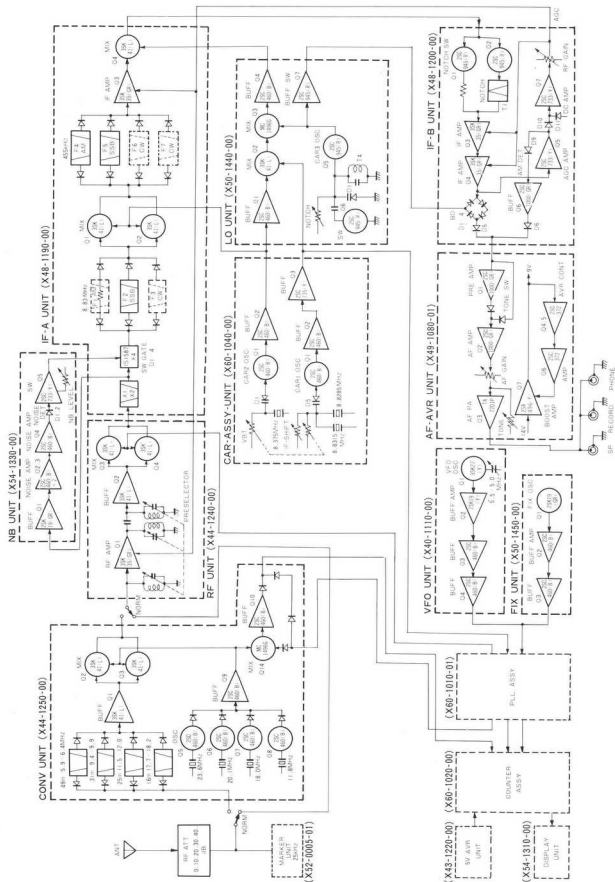

Fig. 5.1 Block Diagram
5.1 BLOCK DIAGRAM GENERAL DESCRIPTION (FIG. 5-1)
Refer to the BLOCK DIAGRAM, (Fig. 5-1) input from the antenna (1.8 ~ 30 MHz and WWV) is fed to the RF unit through the RF attenuator. BC band signals are fed to the CONV unit where they are converted to the 29.5 MHz range and applied to the RF unit.